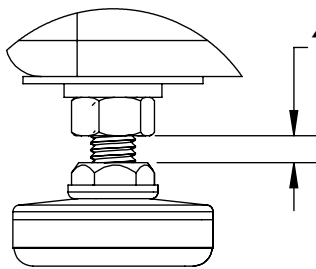

Fig. 3
3. Maximum of 1/4" space between hex nut and Glide nut (**Fig. 3**).